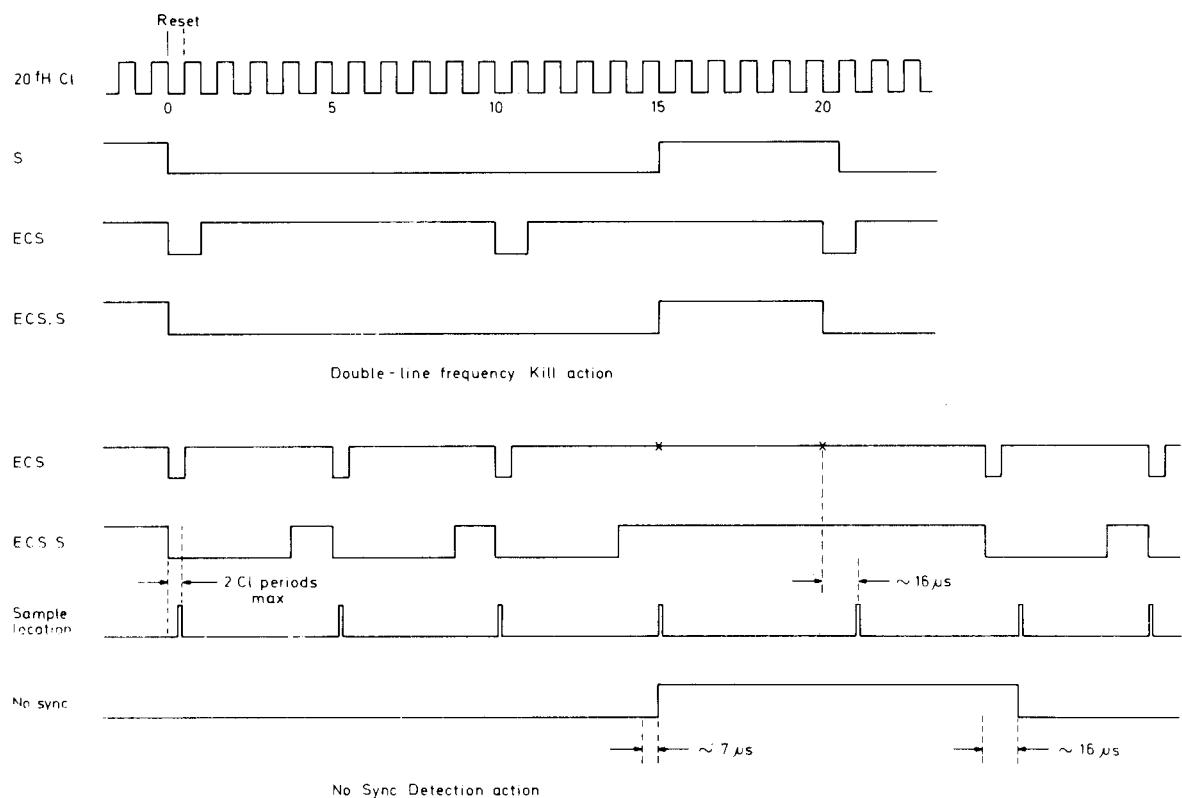

Fig. 11-6 Sync pulse processing in IC9.
The NO SYNC detector in IC9 detects the absence of an ECS line pulse after a maximum of two clock pulse periods (i.e. approximately $7 \mu s$). By sampling the two-clock pulse periods in the ECS.S signal following every start of the line counter (i.e. not following a reset from the ECS signal), drop-outs can be detected quickly. When the NO SYNC (NS) signal becomes logical one, sampling of the 'S' information takes place $16 \mu s$ after the start of the line counter. This delay is necessary as the phase comparator in C9 must deliver the correct phasing information following possible drift of the oscillator during drop-out periods. Idealised waveforms showing the switching of the ECS Processing are given in figure 11-6.